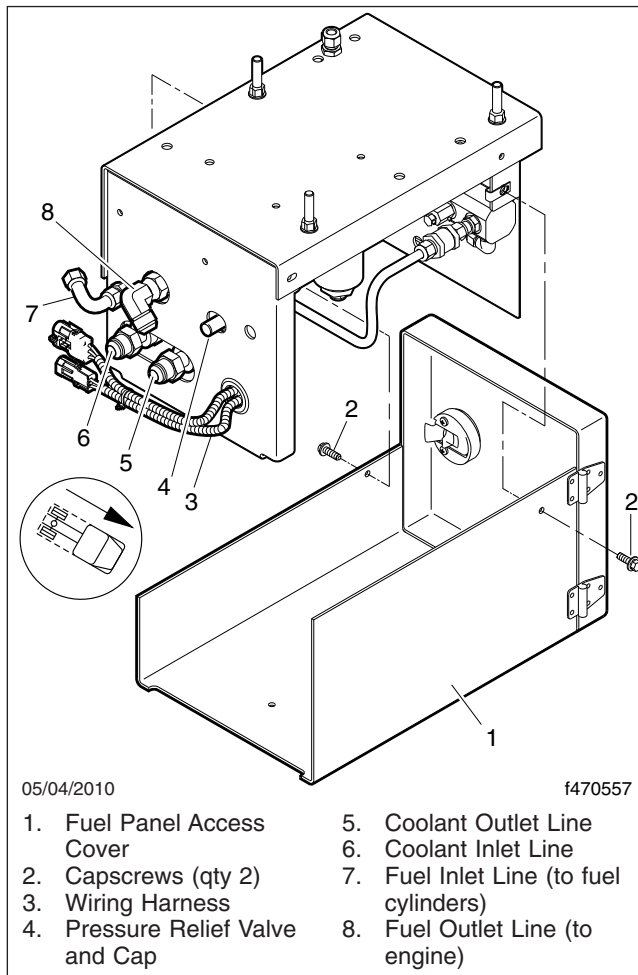

Fig. 14, CNG Fuel Panel Assembly
5. Remove the two capscrews that secure the access cover to the fill panel, then remove the access cover. See **Fig. 14**. Save the capscrews for reinstallation.